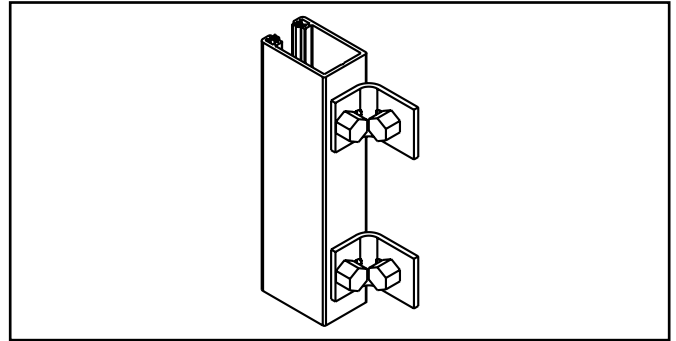

Fig. 13 : Mounting with angle bar WO1
- Fixation angles: see table 8 and figure 13